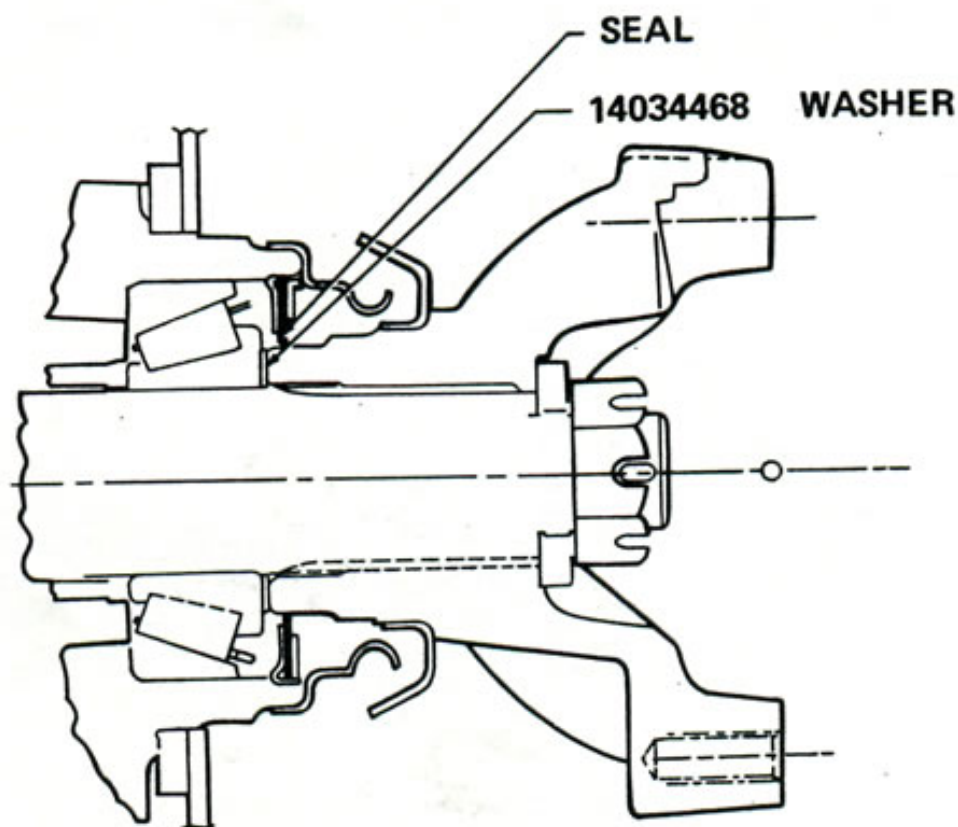

FIGURE 2
6. Install lubricated washer and spindle yoke on spindle such that washer is between yoke and the inner wheel bearing and completely inside the seal (see Figure 2). NOTE: Use care to avoid nicking the seal lip or trapping it between the washer and the bearing race. If the seal life is damaged, the seal must be replaced.